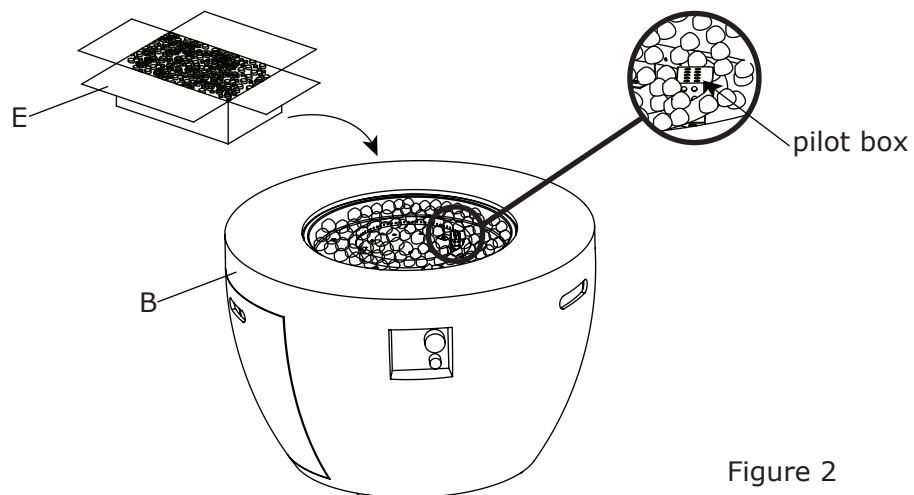

Figure 2
2. Open the box of lava rocks, put the lava rocks (E) into the fire bowl of the fire table (B) (See Figure 2). A gas fire pit requires 13.2 lbs lava rocks.